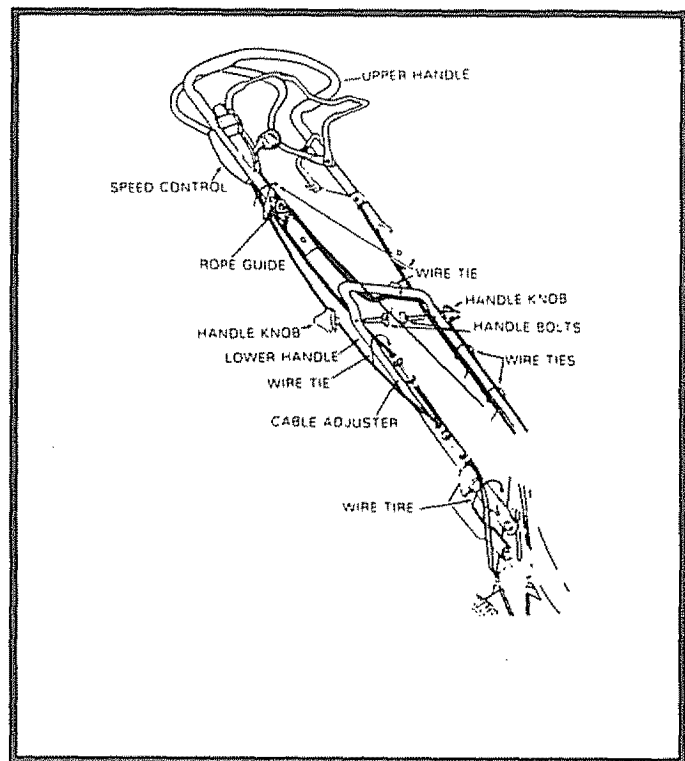

FIG. 4
- Remove the two (2) Handle Knobs and Bolts from upper part of Lower Handle (See Fig. 4).
- Place the Upper Handle onto the Lower Handle, then put the two (2) Handle Bolts through Handles, and install and tighten the Handle Knobs (See Fig. 4).
- Remove the six (6) Wire Ties from the customer package.
- See Fig. 4 for the following wire tie installation.